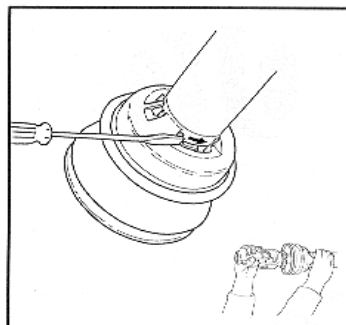

Figure 14-4: Turning Bearing
3. Turn the bearing in the direction as indicated in Figure 14-4. Then slide guard off the bearing.